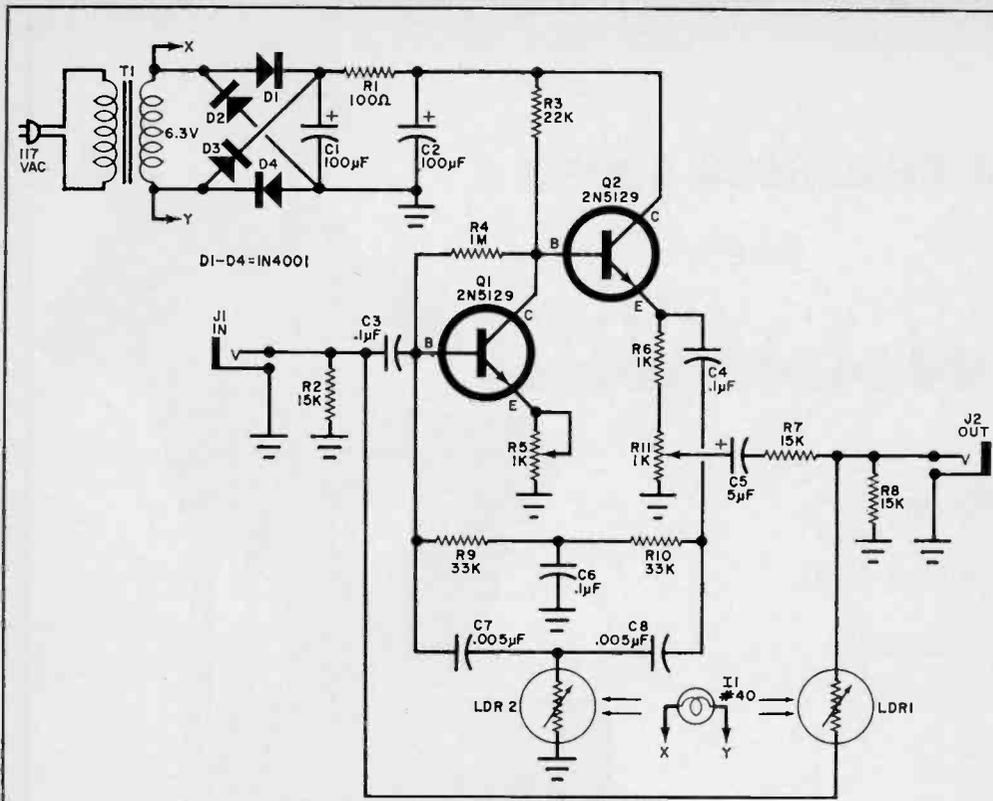
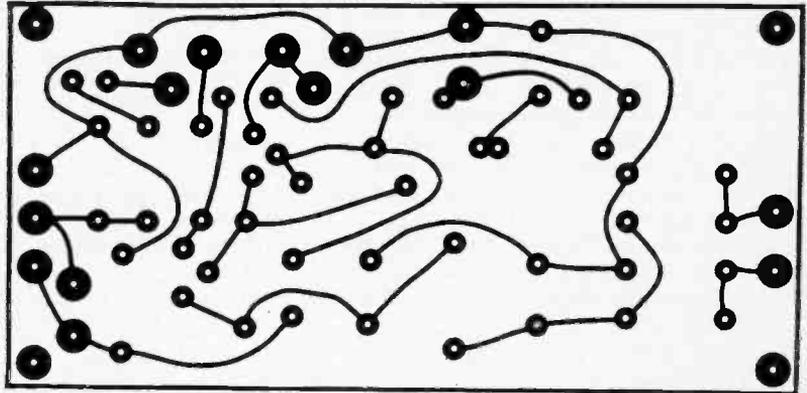

Fig. 1. The circuit is a variable-frequency, narrow-band amplifier whose gain and center frequency are determined by the amount of light on the LDR's.
Fig. 2. Actual-size foil pattern can be used to make your own circuit board.
Again invert the assembly, and front-mount the woofer in its cutout as shown in Fig. 2. Bring the speaker cable out through a hole drilled in the bottom plate, and fill the hole with caulking compound.
Fig. 2. Because speaker board is fixed by caulking compound, it is necessary to front-mount woofer. Staple or tack grille cloth over speaker cone to protect it against dust and pets.
**Construction.** The electronic portion of the Waa-Waa is straightforward and follows the schematic shown in Fig. 1. Component layout is not critical and any method of assembly may be used. Use of a printed circuit board lends a professional touch and guarantees correct wiring. You can make your own board using the foil pattern shown in Fig. 2 or you